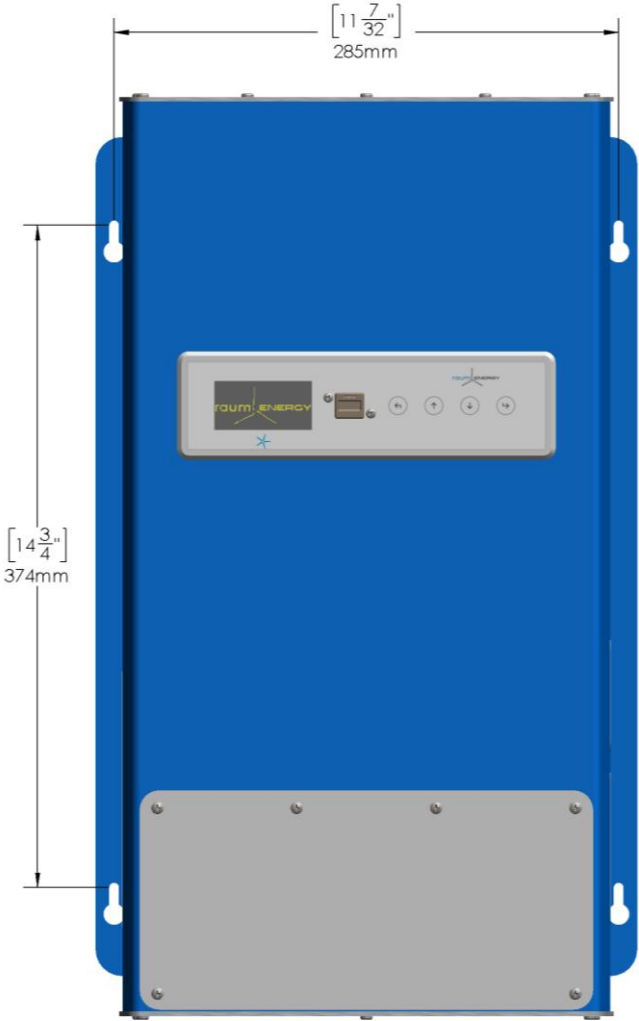

Figure 5 - Mounting dimensions
1. On the installation surface, mark the 4 locations of the mounting holes using either the dimensions in Figure 5 as your guide. Ensure the marks are level.